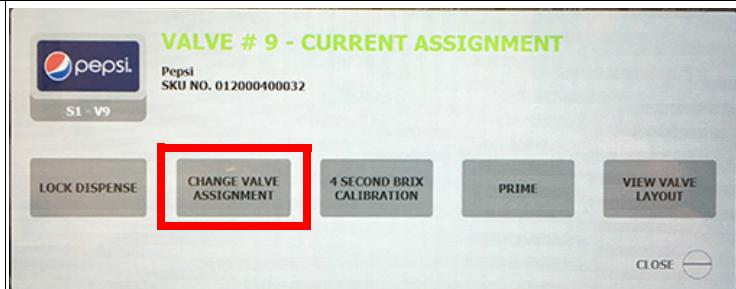

Figure 41
**Result:** The **Current Assignment** screen shows the S1-V9 valve associated with the Pepsi brand. See Figure 41.